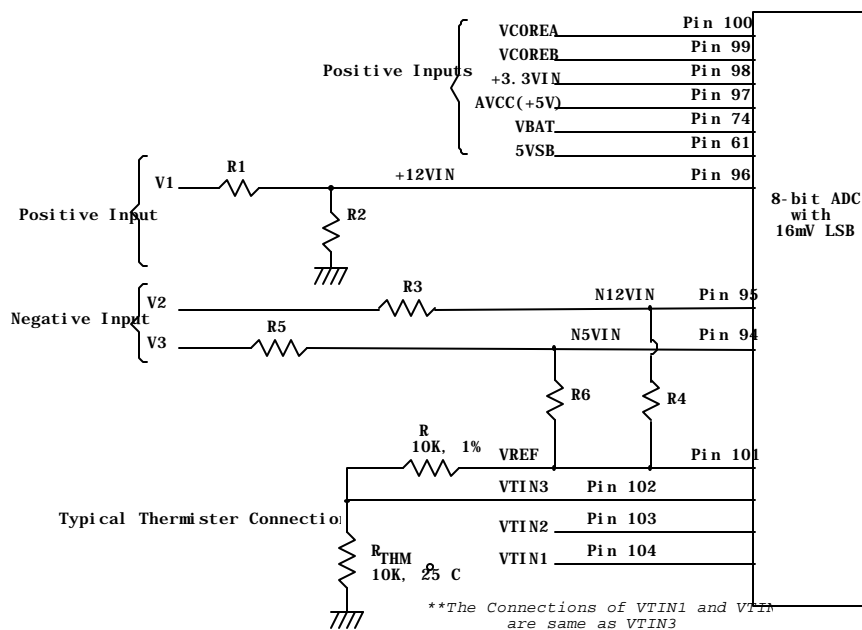

Figure. 2.2
The maximum input voltage of the analog pin is 4.096V because the 8-bit ADC has a 16mV LSB. Really, the application of the PC monitoring would most often be connected to power suppliers. The CPU V-core voltage, +3.3V, battery and 5VSB voltage can directly connected to these analog inputs. The +12V, -12V and -5V voltage inputs should be reduced a factor with external resistors so as to obtain the input range. As Figure 2.2 shows.
The W83627HF can connect three thermistors to measure three different environment temperature. The specification of thermistor should be considered to (1) β value is 3435K, (2) resistor value is 10K ohms at 25°C. In the Figure 2.2, the thermistor is connected by a serial resistor with 10K Ohms, then connect to VREF (Pin 101).